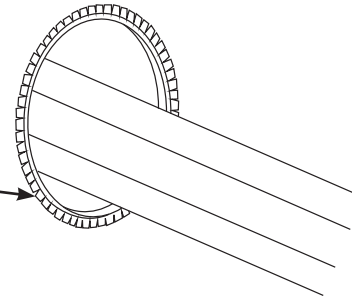

fig. 14
- b. In some cases, a hole may have to be drilled to allow access for the harness. Drill a 1”(25mm) diameter hole and install the provided grommet (fig. 14). It will be necessary to seal any grommets or holes that have been cut, drilled or removed so as not to allow elements to enter the cab area of the vehicle.